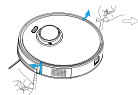

Fig. 1
1. Remove foam inserts on each side (fig. 1).